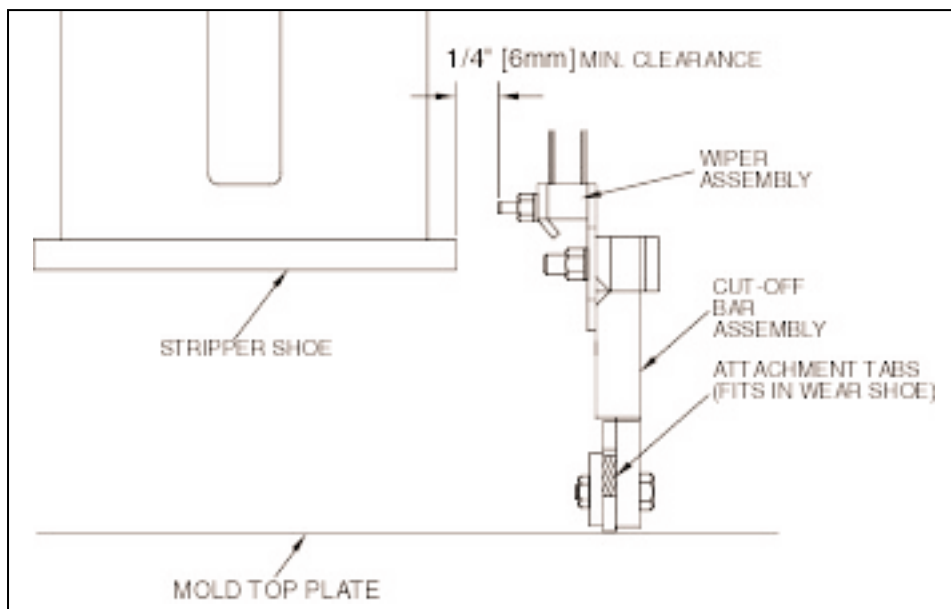

Figure 5.33 FEEDBOX ADJUSTMENT.
- 5.7.11 Put in agitator grid and cut-off bar, and check feedbox alignment. There should be a minimum clearance of 1/4" [6mm] between the wiper assembly and the stripper shoe as shown in figure 5.33.